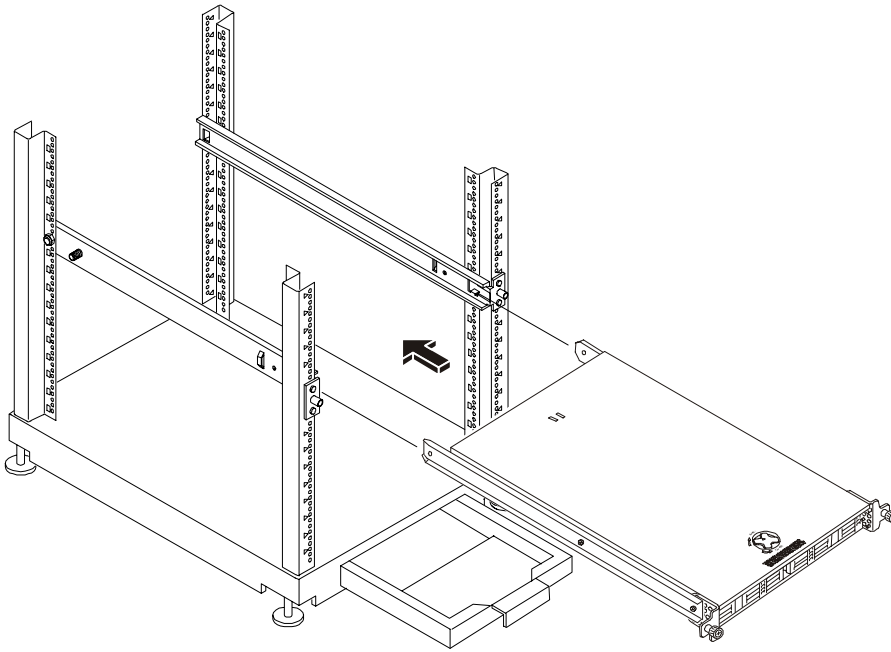

Figure 13-5. Mounting the HP Netserver
4. Move the rear of the inner-rails mounted on the Netserver just beyond the inside edge of the outer-rail assemblies. See Figure 13-5.
5. Slowly move the Netserver chassis into the outer-rail assemblies until the Netserver is completely in the rack. See Figure 13-5.